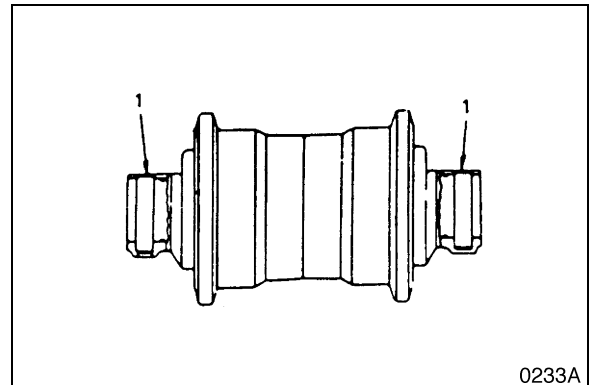

Figure 30
2. Pull the pin (1, Figure 30) from the collar.